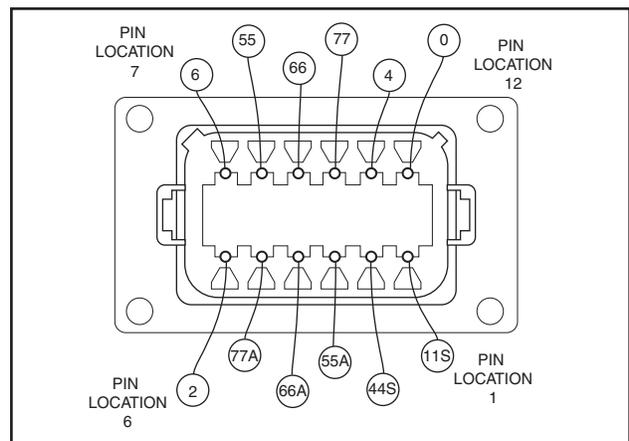

Figure 6-19. – C1 Connector, Male Side
3. Locate the male side of the connector located on the bottom of the control panel. See Figure 6-19. Connect one meter test lead to Pin 1 Wire 11S. It may be helpful to connect a small jumper lead to the individual pin. Connect the other meter test lead to Wire 11S at Terminal Block 2 (TB2) . See Page 17 for Terminal Block 2 location. Continuity should be measured.
4. Locate the male side of the connector located on the bottom of the control panel. See Figure 6-19. Connect one meter test lead to Pin 2 Wire 44S. It may be helpful to connect a small jumper lead to the individual pin. Connect the other meter test lead to Wire 44S at Terminal Block 2 (TB2). Continuity should be measured.
3. Locate the male side of the connector located on the bottom of the control panel. See Figure 6-19. Connect one meter test lead to Pin 6 Wire 2, it may be helpful to connect a small jumper lead to the individual pin. Disconnect Wire 2 from the Excitation Circuit Breaker (CB1). Connect the other meter test lead to Wire 2. See Page 17 for Excitation Circuit Breaker location. Continuity should be measured.
7. Locate the male side of Connector C1 located on the bottom of the control panel. See Figure 6-19. Connect one meter test lead to Pin 11 Wire 4. Connect the other meter test lead to Wire 4 at the six pin connector previously removed from the Voltage Regulator. See Figure 6-11. Be careful not to damage the pin connectors with the test leads. Continuity should be measured. If continuity is not measured repair or replace Wire 4 between the C1 connector and the six-pin Voltage Regulator connector.
8. Connect one meter test lead to Pin 12 Wire 0. See Figure 6-19. Connect the other meter test lead to the ground terminal in the control panel. Continuity should be measured. If continuity is not measured repair or replace Wire 0 between the C1 connector and the ground terminal.